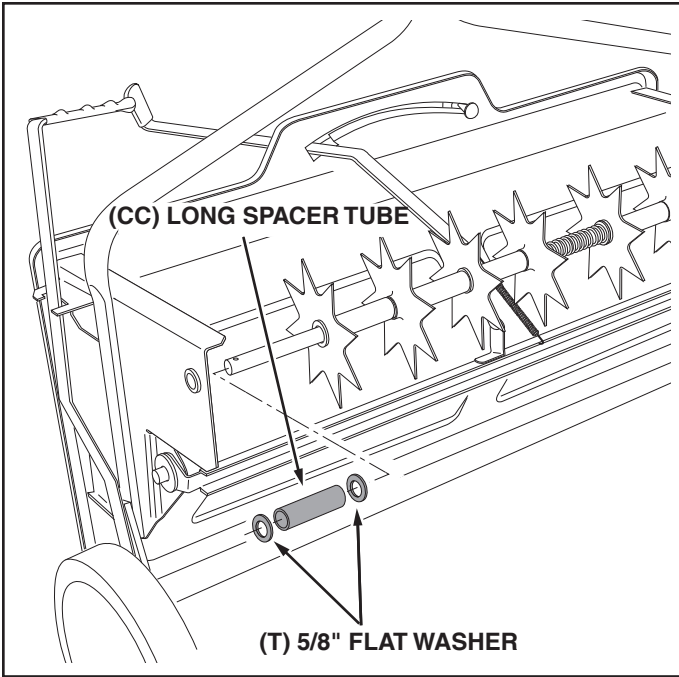

FIGURE 20
39. Place two 5/8" flat washers separated by a long spacer tube onto the shaft. See figure 20.